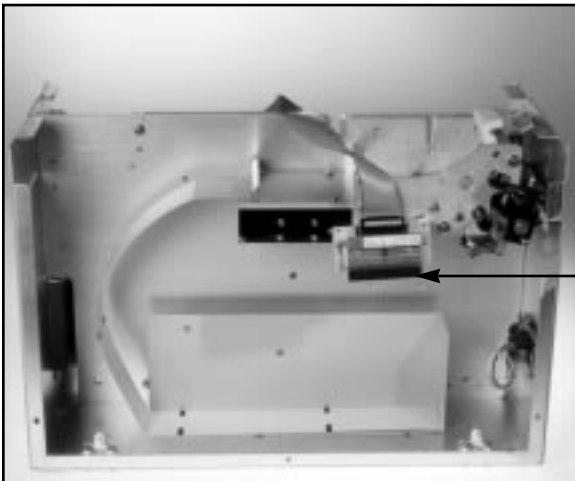

Figure 8A - Print Head removal
(Please refer to **figures 8a - c**)
3. Lift up on the cam lock assembly (located above the head mounting block) to remove pressure from the thermal head. (see **figure 8a**)